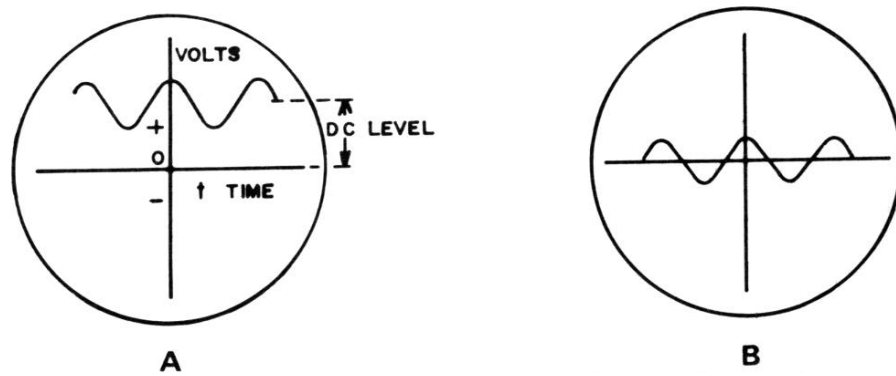

Figure 1-40. Oscilloscope traces. A. DC operation. B. AC operation.
4. *AC-DC*: A switch that determines whether only AC beam deflection or AC and DC deflection will occur. This is illustrated in Figure 1-40. If the trace or spot is previously adjusted to a zero reference line, the waveforms shown will produce displays similar to those shown in Figure 1-40.